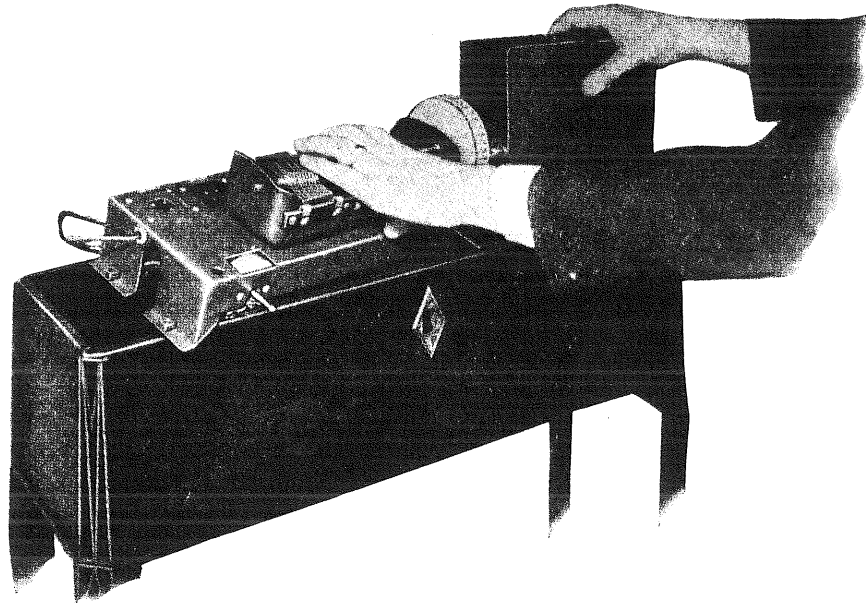

Figure 16—Removing receiver chassis and socket power unit from cabinet in one operation
- (g) Grasping the receiver assembly by the tuning condenser assembly and the S.P.U. by the power transformer or filter reactor, lift the two assemblies clear of the cabinet—See Figure 16. The S.P.U. can be lifted straight up, but the receiver assembly must first be pulled back slightly so the volume control and tuning control clear the front of the cabinet. Place the two assemblies on a suitable support for work.